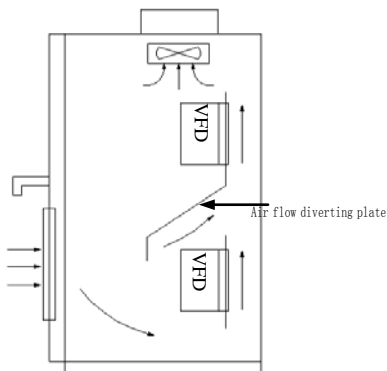

Fig. 3-2 Mounting of multiple VFDs
- (3) When several VFDs are installed in one cabinet, they should be mounted in parallel with special incoming and out coming ventilation and special fans. When two VFDs are mounted up and down, an air flow diverting plate should be fixed as shown in Fig. 3-2 to ensure good heat dissipation.